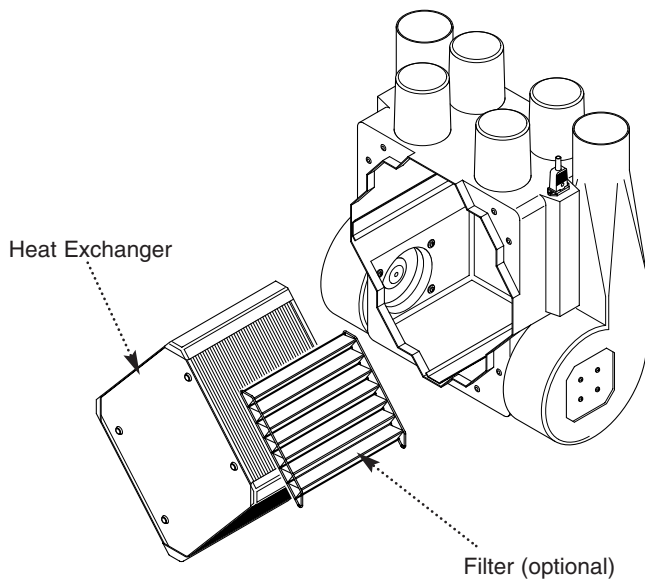

Fig. 21
5. Withdraw the heat exchanger (Fig. 21).
7. Remove filter, if fitted, and replace with new filter media (Fig. 21).